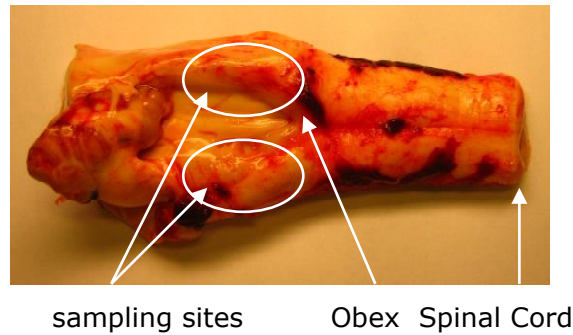

Figure 1: Sampling area
Bovine brain of the obex region (Figure 1) must be used as starting material for the BetaPrion® BSE EIA Test Kit.
Sampling and laboratory testing must follow the Regulation (EC) No 999/2001 Chapter C which refers in terms of collection of samples to the latest edition of the "Manual of Standards for Diagnostic Tests and Vaccines of the International Office of Epizootic Diseases (OIE)) stating: "The preferred sample for immunoassay should be at, or as close to the obex as possible, but no further than 1.5 cm anterior to the obex." Figure 1 shows the sampling area, either the left **or** the right hand side can be used.